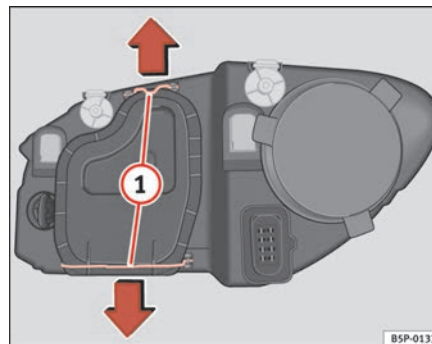

Fig. 179 Dipped head-lights
- Remove the loops ⇒ page 256, fig. 179 ① in the direction of the arrow and remove the cover.